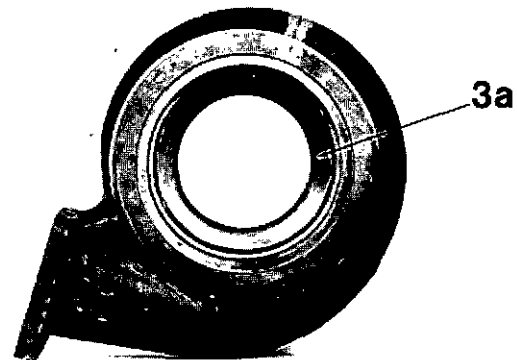
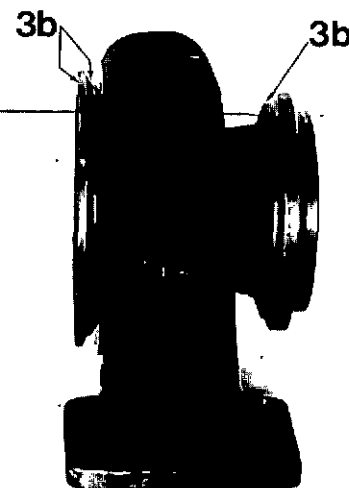

Fig. 4-15, (T465067). Inspect the turbine housing
Fig. 4-16, (T465068). Inspect the turbine housing
3. Turbine Housing (10), Fig. 4-15 and Fig. 4-16.